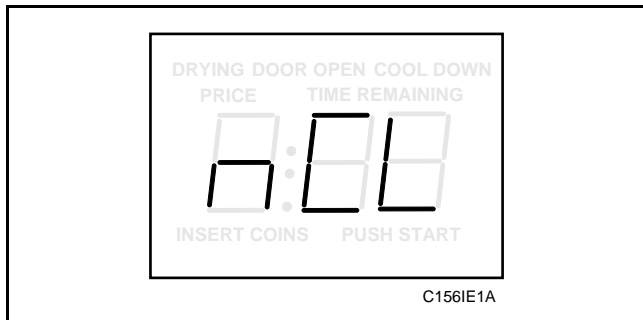

Figure 38
3. Press the LOW TEMP (+) pad or the NO HEAT (-) pad to scroll through the programmable options until “nCL” appears in the VFD, *Figure 38*.